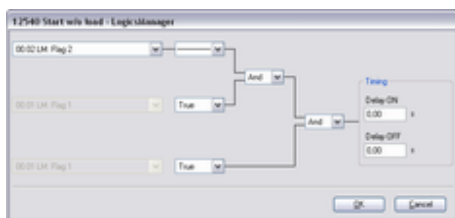

Fig. 242: LogicsManager function "Start without load"
3. ➤ The LogicsManager function "Start without load" (parameter 12540 ↵ p. 290/↵ p. 928/↵ p. 928) can be configured as shown in (Fig. 242).